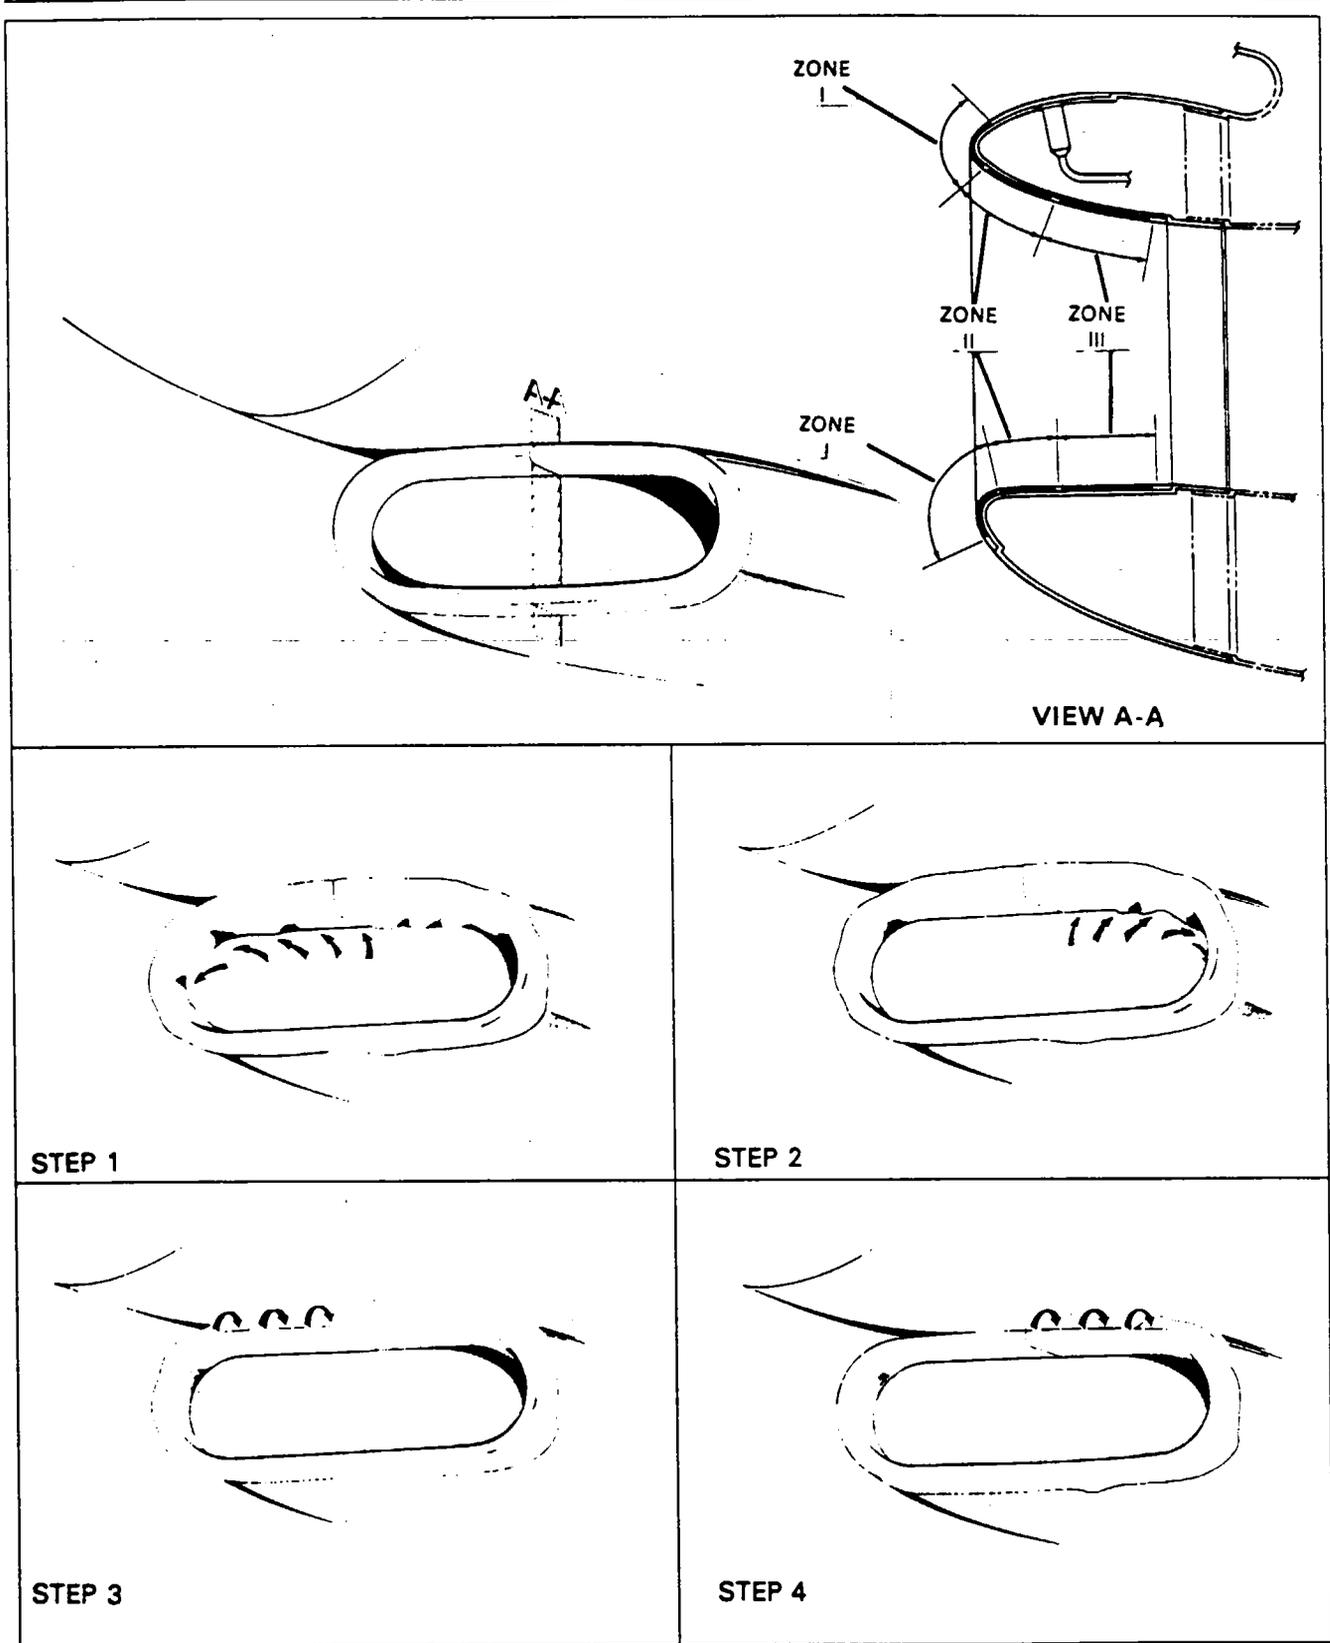

Figure 30-15. Engine Air Inlet Lip Deicer Installation
**INSTALLATION OF DEICER AND REQUIRED MATERIALS. (Refer to Figure 30-15.)**
12. Apply masking tape around the edges of the inlet where the boot meets the fiberglass edges. (See Figure 30-15, View A-A.) to prevent sealer from contacting any areas beyond the deicer boot edges.
2. Check the electrical resistance of each of the elements by checking between each pin in the plug and the ground lead. Pin 1 is the Parting Strip element; Pin 2 is the Shedding Area I element and Pin 3 is the Shedding Area II Element. Refer to Figure 30-15 and Chart 3006.